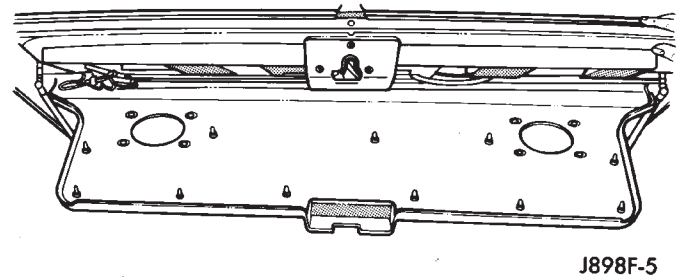

Fig. 8 Liftgate Trim Panel Removal
- (1) Remove 2 screws at the top outside edges of the liftgate trim panel.
- (2) Remove trim panel with a wide flat blade tool (Fig. 8).